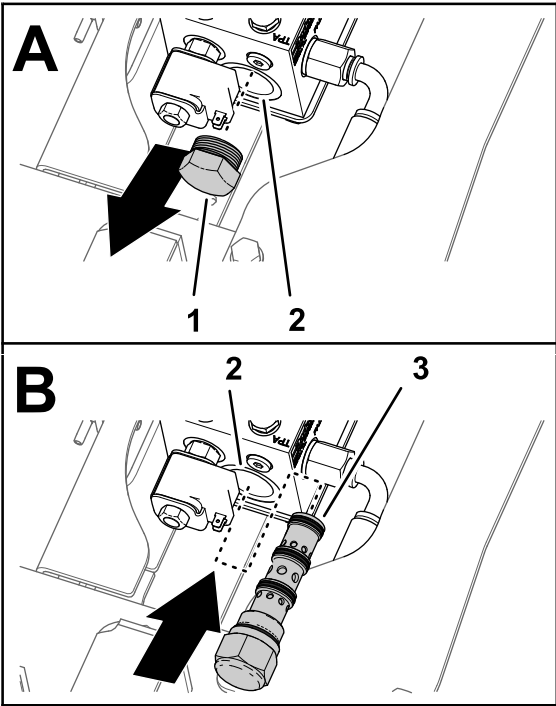

Figure 6
2. Remove the plug from the port at left side of the traction manifold (Figure 6).
3. Insert the limited slip differential valve into the traction manifold and thread the valve in by hand (Figure 6).